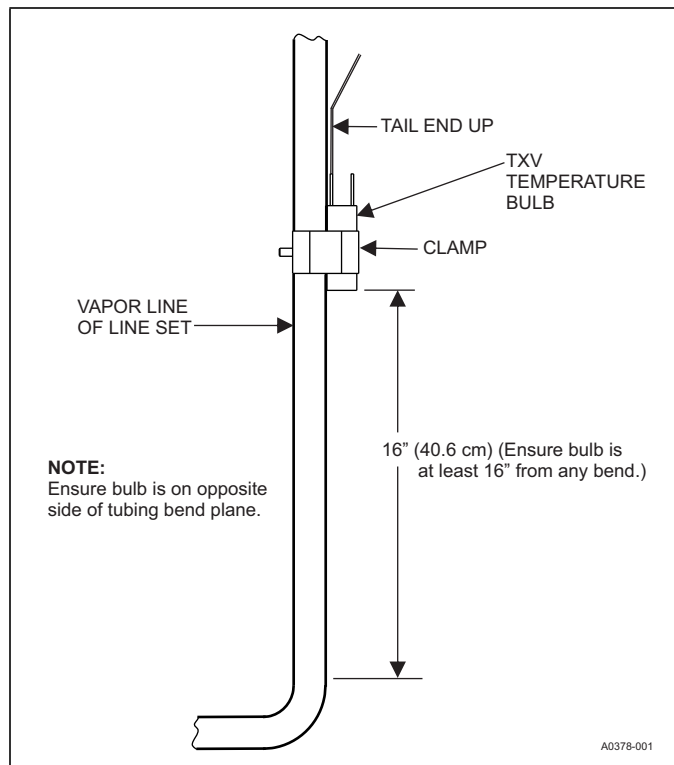

FIGURE 9: Vertical Temperature Bulb Orientation
- If bulb installation is made on a vertical run, ensure that the bulb is a minimum of 16 inches (20.3 cm) away from elbow coming out of the coil. Position the bulb with the tail of the bulb at the top, so that the bulb acts as a reservoir. See Figure 9.